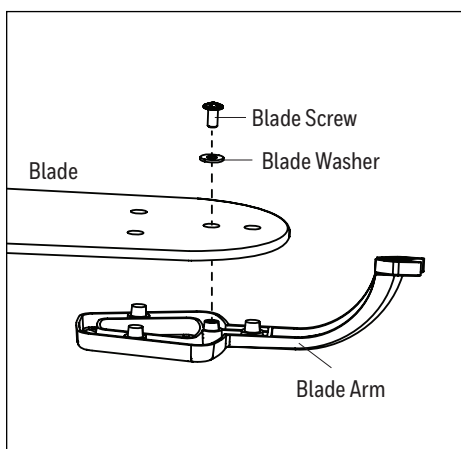

Figure 4.4
- Align blade arm studs with their corresponding holes in the blade and then insert the blade screw, blade washer to attach one blade arm to a blade. Tighten the blade screw. Repeat this step for the remaining blades and blade arms (Figure 4.4).